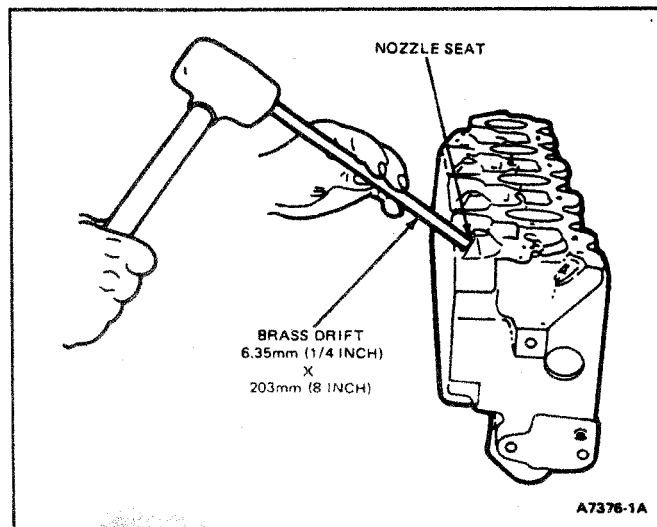

FIG. 61 Prechamber Removal
28. Remove prechambers using a 6.35mm x 203mm (1/4 inch x 8 inch) brass drift and suitable hammer (Fig. 61).